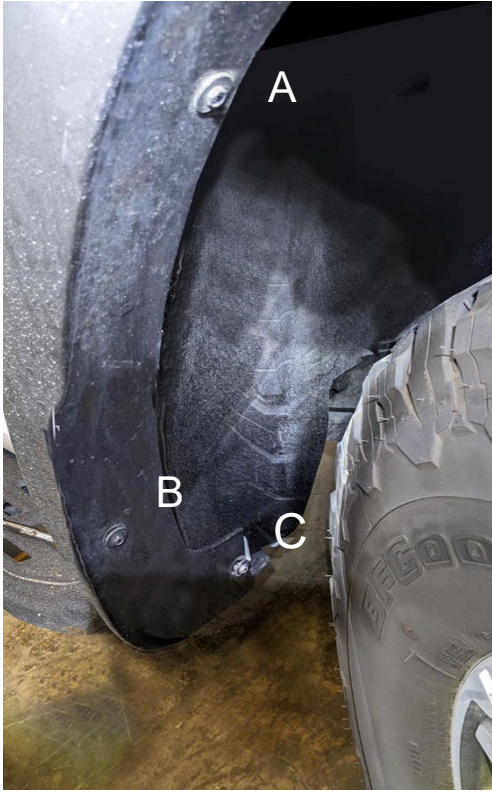

FIGURE 2 (FRONT)
3. Attach flap at location C using supplied #8 X 1-1/2" screw and small fender washer. (FIGURE 2)